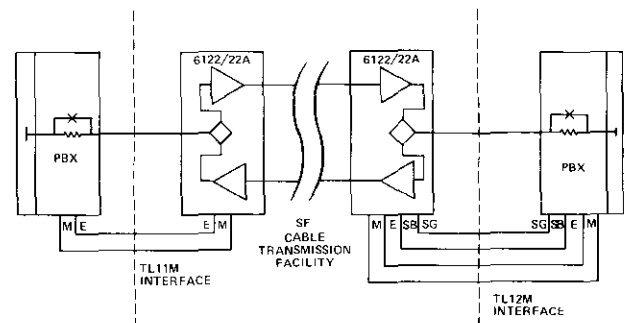

figure 2. Typical short-haul tie-trunk circuit using 6122 or 6122A (network-terminating application)
2.02 The 6122 and 6122A are well suited to a variety of 4wire-to-2wire SF-to-E&M applications, both network-terminating and otherwise. In network-terminating applications where the serving telephone company uses facility-side SF signaling, each module fulfills Registered Facility Interface Codes TC11E, TC11M, TC12E, TC12M, TL11E, TL11M, TL12E, and TL12M. Figures 2 through 4 show three typical network-terminating tie-trunk applications of the 6122 and 6122A: short-haul, long-haul involving analog carrier, and long-haul involving digital carrier, respectively.